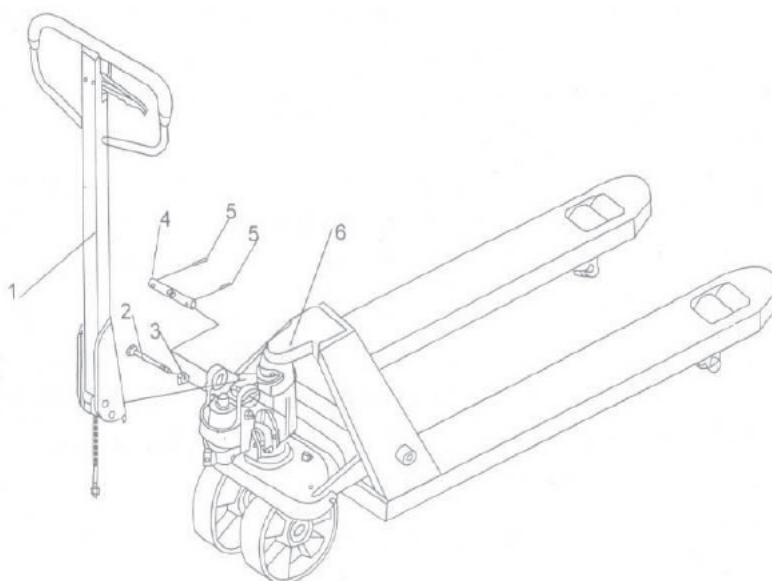

Fig. 2
- c) Press the tiller arm down; take away the pin (2, Fig. 2)
- d) Set the control lever of the handle to 'RAISE' position, then raise the lever plate with the pin (2, Fig. 2) and insert the adjusting bolt into the front slot of lever plate. Note: Keep the adjusting nut under the lever plate.
- e) Use a hammer to insert the 2nd dowel pin (5, Fig. 2) into the 2nd hole of the axle. The draw-bar is now assembled to the pump.